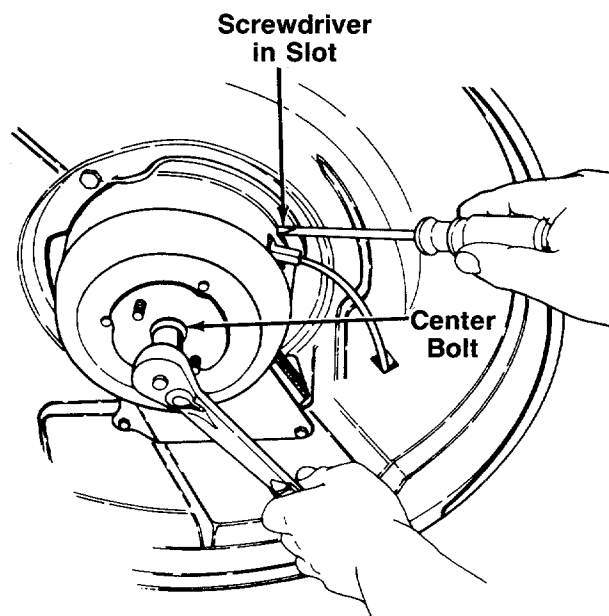

FIGURE 24.
7. Remove the inside belt guard by removing two self-tapping screws. A 3/8" wrench is required. See figure 24.
- a. Insert a screwdriver into the slot provided in the blade brake/clutch housing where the control cable enters the housing. See figure 24.